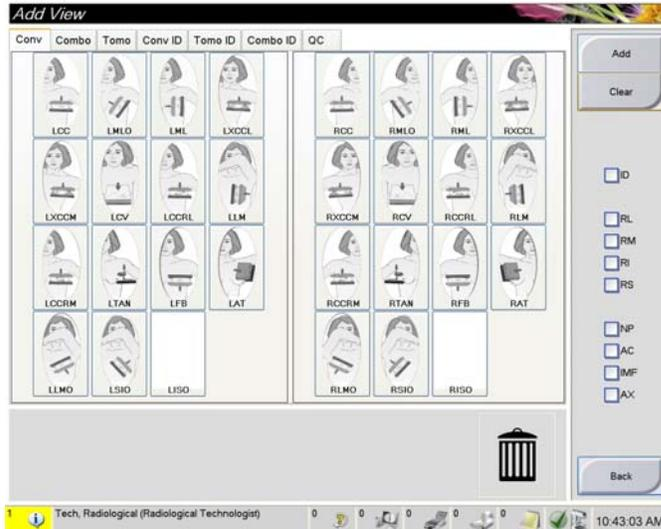

Figure 3-7: The Add View Screen
3. Select the view from the screen. You can select a maximum of 3 View Modifiers. See Figure 3-7 for a description of the View Modifiers.